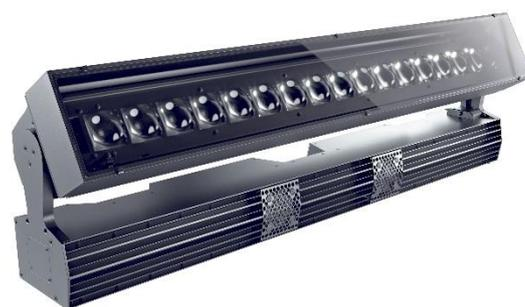

Figure 5. X5 Bar IP 1000 placed on a horizontal surface
1. Stand the fixture on the small feet in the fixture's base as shown in Figure 5. Make sure that it is safe and secure, and that it will not present a danger of tripping or falling.